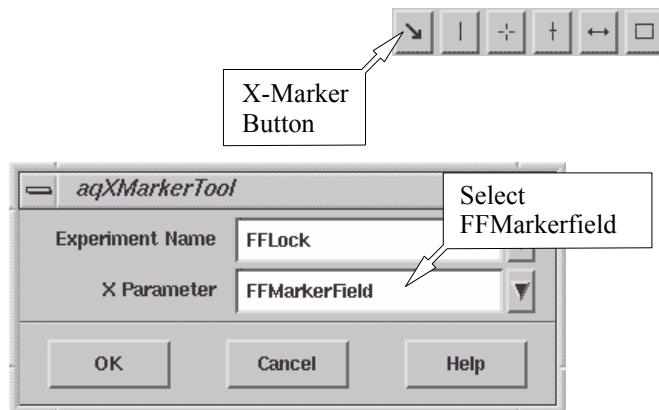

Figure 12-20 Creating an FF-Lock Marker.
2. **Create an FF-Lock field Marker.** Click the X-Marker button to open the dialog box. In the X Parameter drop-down menu, select FFMarkerField. (See Figure 12-20.)